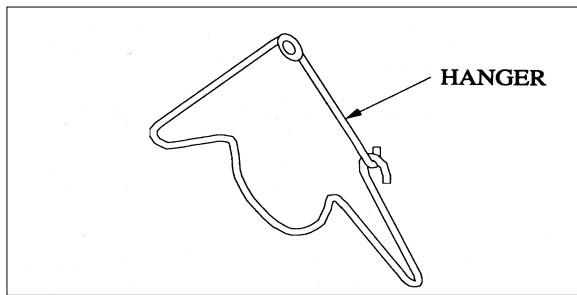
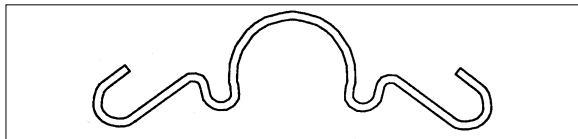

Figure 1-4
Figure 1-5
1. Each heater comes equipped with the necessary hangers (Figure 1-4) for hanging. The DTHS 20 requires three hangers, the DTHS 30 four hangers, the DTHS 40 five hangers, and the DTHS 50 six hangers. Each heater also comes with one reflector center support (Figure 1-5) for the first 10 ft. section of reflector and one DTHS installation kit.